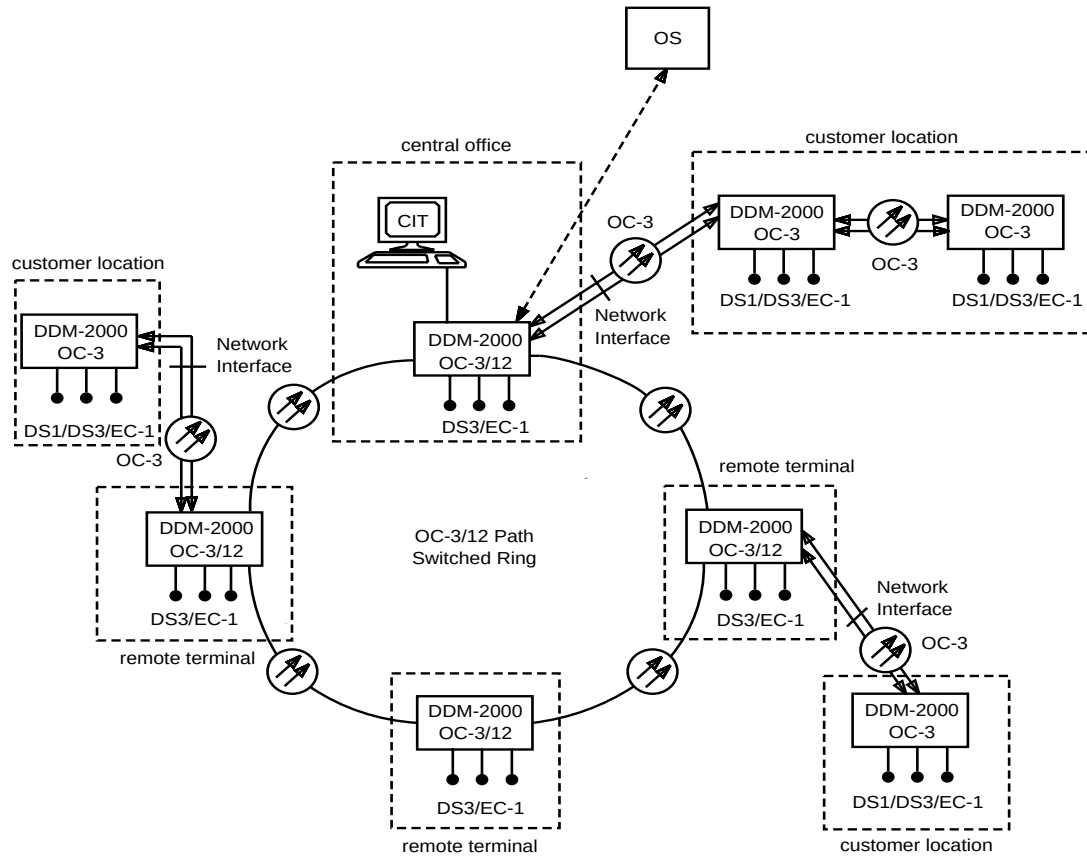

Figure 2-13. OC-3 Services Using Linear Optical Extensions
An additional topological flexibility offered by the DDM-2000 OC-3 and OC-12 Multiplexers is 1+1 protected linear OC-3 and IS-3 optical extensions from OC-3 and OC-12 rings. Using this capability, the DDM-2000 OC-3 and OC-12 Multiplexers can support many of the new network configurations desired in the evolving loop feeder environment. As Figure 2-13 shows, an access provider can use linear optical extensions from an OC-12 ring to provide OC-3/OC-3c signals directly to end users. This gives the end users the bandwidth they need for large bandwidth applications, such as video, and provides it to them via the path switched ring architecture they require for high service availability. If enabled, full single-ended operations are available on all network elements (NEs). This gives the end user full control of performance monitoring (PM) data, network reconfigurations, and provisioning of the network.